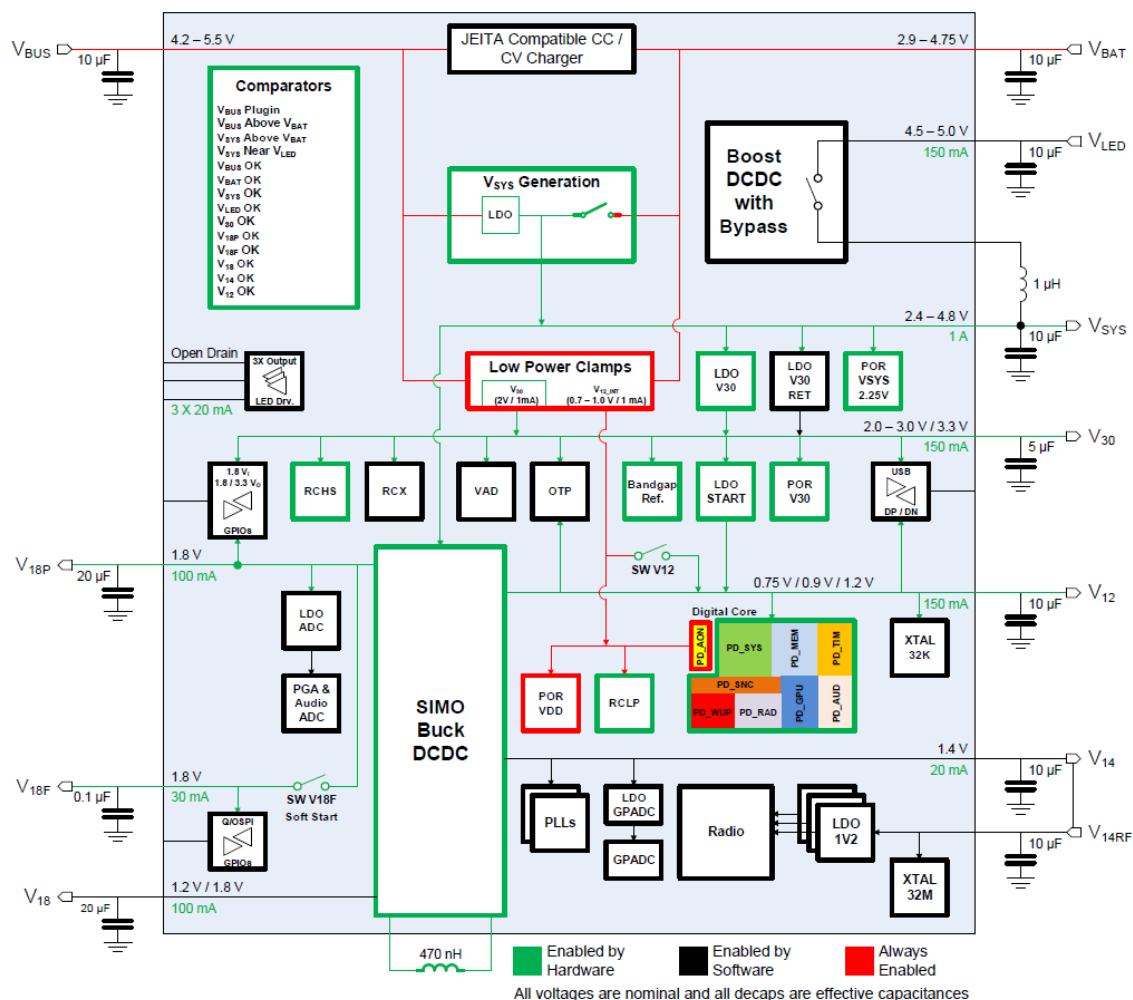

Figure 6: DA1470x Power Management Unit Block Diagram
There are certain parts of the power management unit (PMU) which are always powered. They are marked red in Figure 6. HW and SW enabled blocks are marked with green and black respectively.
- **V18F:** This is generated from V18P, through an internal semiconductor switch. It delivers, 1.8 V to the external XIP QSPI FLASH (V18F) as well as the QSPI I/Os connected to this FLASH. V18F can deliver up to 30 mA. (Figure 6).